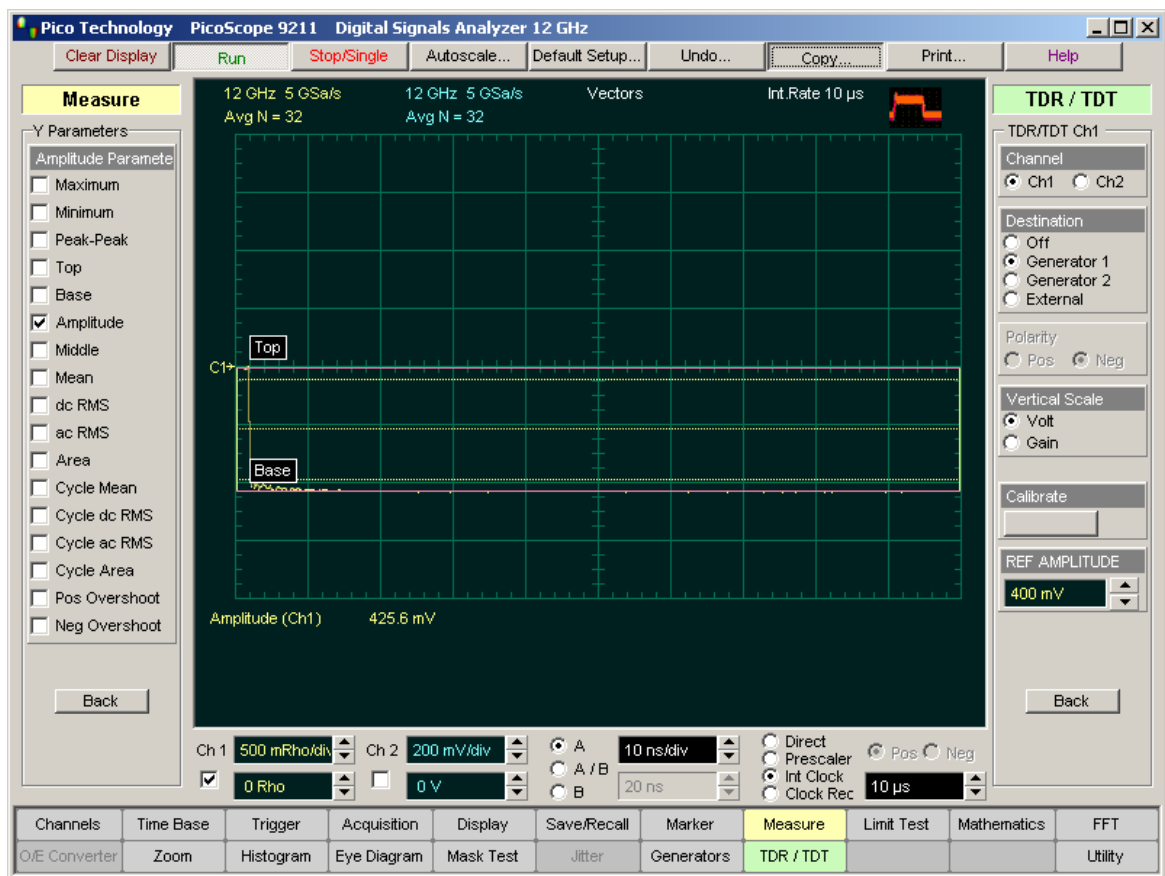

Figure 1
5. Check Amplitude. See Figure 1.